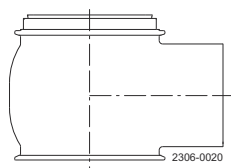

Figure 1. Type 20
- Conversion flange that enables replacement of an SMP-TO valve though reusing the existing SMP-TO tank flange - see fig. 1.